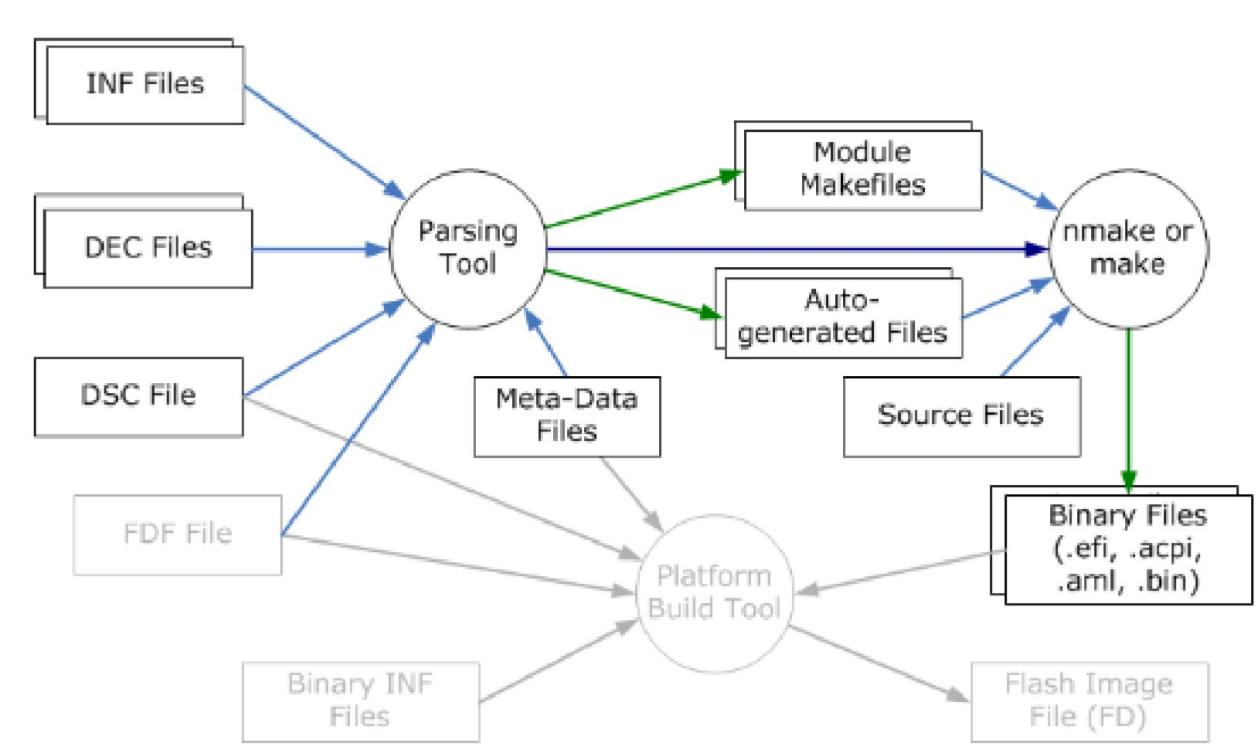

Figure 18 EDK II Platform Build Process Flow
Figure 18 shows the relationship of these three stages.
**Note:** In Figure 18, Meta-Data Files indicates build tool meta-data files: `buildrule.txt`, `tools_def.txt`, `target.txt` and the like.